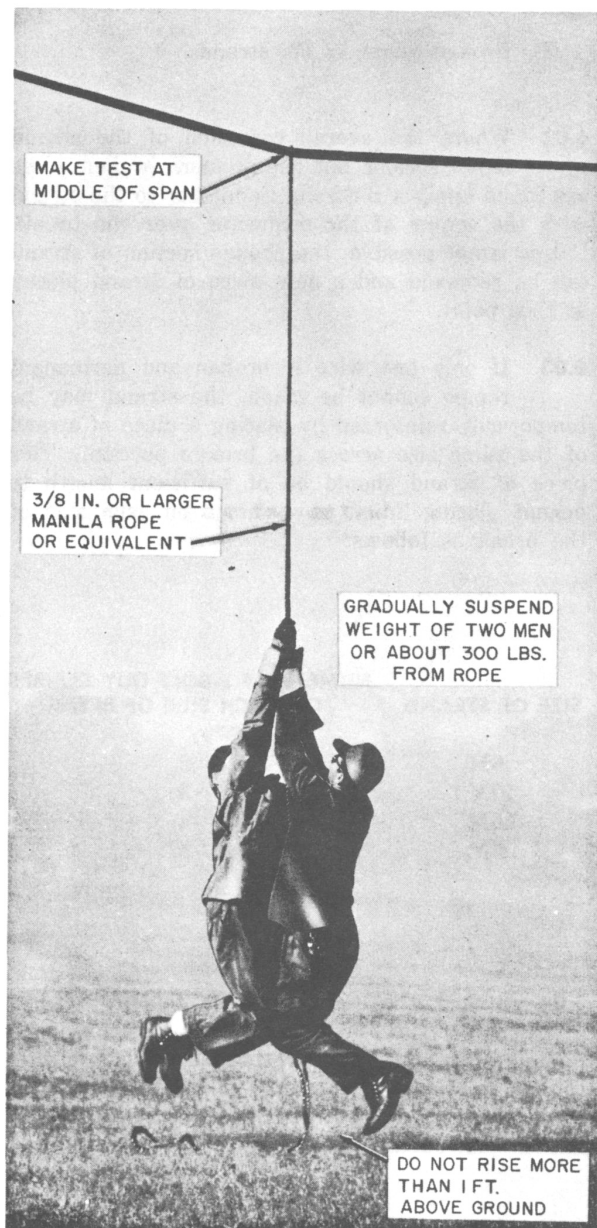

Fig. 2—Testing Strand Prior to Placing Aerial Platform or Cable Car
- (3) Two workmen should grasp the two ends of the handline and gradually apply their full weight to the strand by lifting themselves slowly off the ground (Fig. 2).